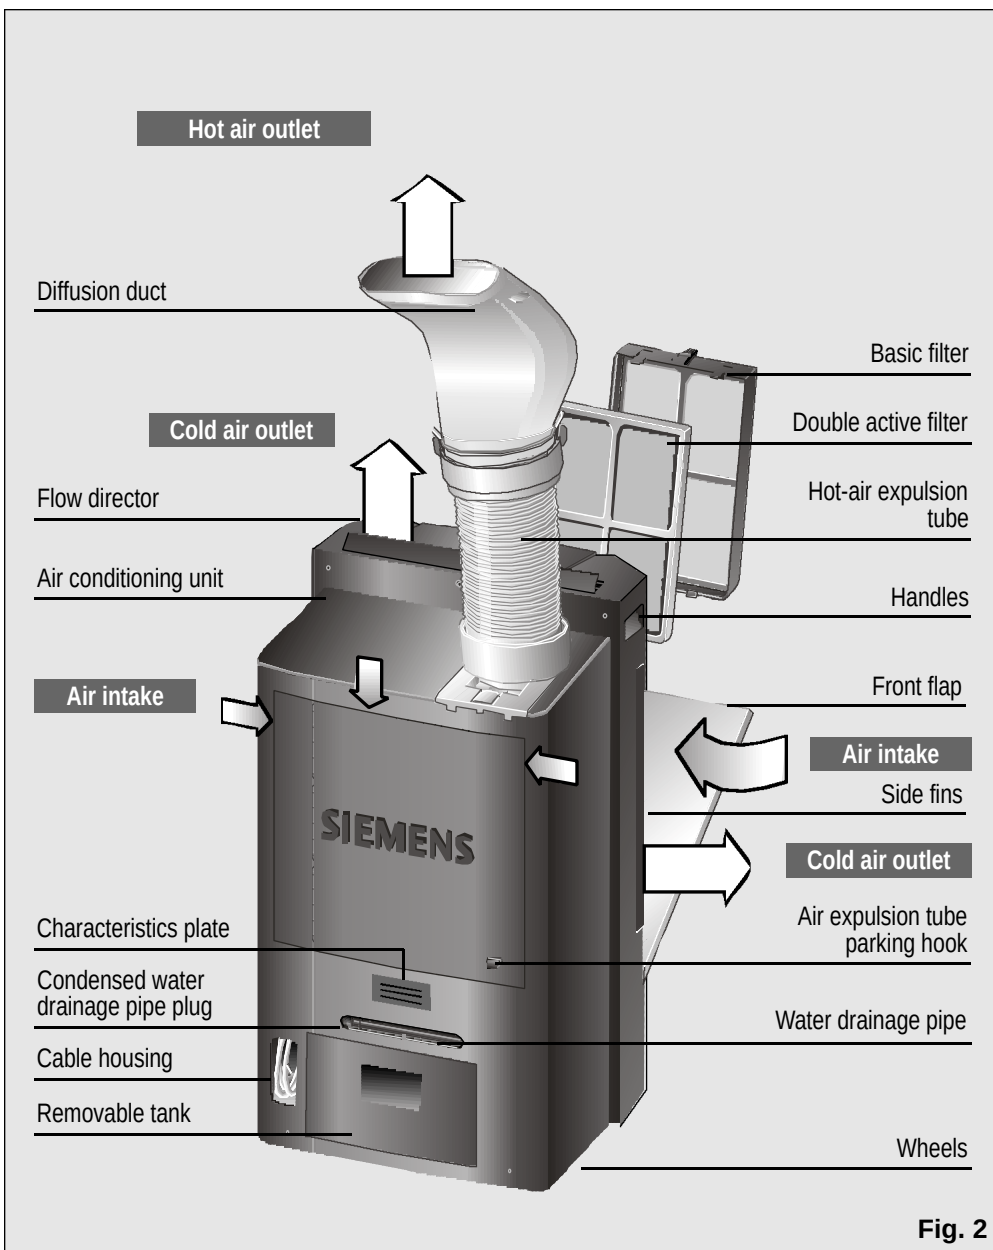

Fig. 2
- ☐ There is a cavity at the back of the appliance to house the mains electricity supply cable. See **Fig. 2**.